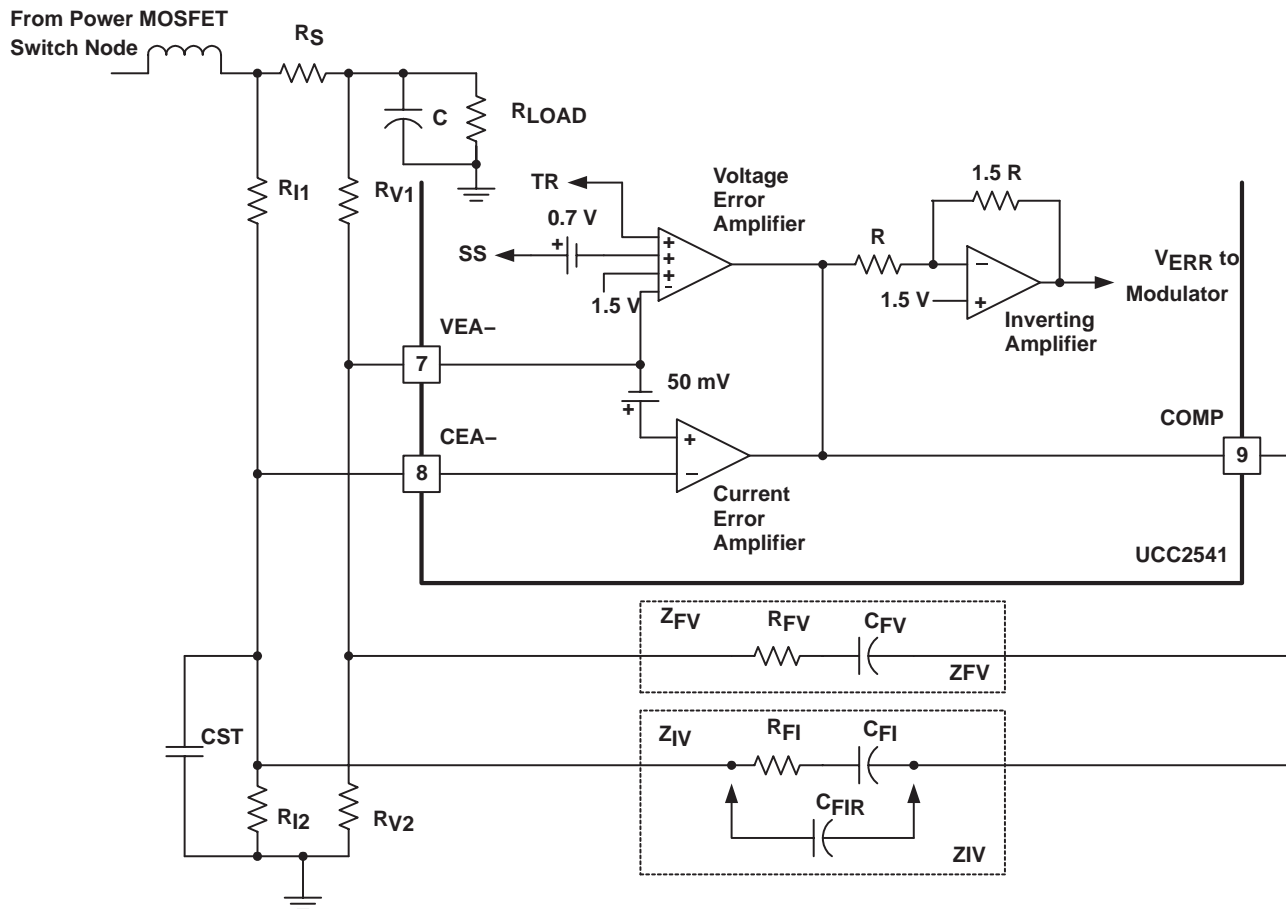

Figure 3. Error Amplifier Configuration
Current limiting begins to occur when the difference between CEA– and VEA– exceeds 50 mV. For currents that exceed this operating condition, the UCC2541 controls the converter to operate as a pure current source until the output voltage falls to half of its rated steady state level. Then the UCC2541 sets both G1 and G2 outputs to LOW and it latches a fault that discharges the soft-start voltage at 30% of its charging rate. The UCC2541 inhibits a retry until the soft-start voltage falls below 0.5 V. A functional diagram of the voltage and current error amplifiers is shown in Figure 3.
**Voltage vs. Current Programming (refer to Figure 3):**
From no-load to full rated load operating conditions, the UCC2541 operates as a voltage mode controller. Above the programmed rated current, there are two levels of over current protection; constant current limit and overcurrent reset/retry. This section gives suggestions on how to design the voltage controller and current controller so that they interact with one another in a stable fashion. Refer to the functional diagram of the voltage and current error amplifiers in Figure 3. The voltage error amplifier in the figure shows three non-inverting inputs. The lowest of the three non-inverting inputs (1.5 V, SS and TR) is summed with the inverting input to achieve the voltage error signal. The lowest of the two outputs drives the inverting stage which in turn, drives the modulator.
During steady state voltage control operation, the feedback elements in the current loop have no effect on the loop stability. When current limit occurs, the voltage error amplifier effectively shuts OFF and the current error amplifier takes control. During steady state current limit operation, the negative feedback elements in the voltage error amplifier loop become positive feedback elements in the current error amplifier loop. In order for the current error amplifier to be stable, the impedances in the feedback path of the current error amplifier must be lower than the impedances in the feedback path of the voltage error amplifier. This means that resistors in the current error amplifier negative feedback path must be less than the resistors in the voltage error amplifier negative feedback path. Also capacitors in the current error amplifier negative feedback path must be larger than capacitors in the negative feedback path of the voltage error amplifier negative feedback path. (Capacitance is really an admittance value rather than an impedance value). This concept is illustrated in Figure 3.
In order for the current loop to be stable in Figure 3,  $||Z_{IV}||$  must be less than  $||Z_{FV}||$  over all frequencies. This can be achieved if  $R_{FI} < R_{FV}$  and  $C_{FI} > C_{FV}$ .
Another issue that can occur during current limit operation is modulator stability. In order for the modulator to be stable, the rising slope of the current ripple measured at the COMP pin must be smaller than the rising slope that is measured at the RAMP pin. This can be met either in the selection of the ratio of  $||Z_{IV}||$  to  $||Z_{FV}||$ , or by the addition of a capacitor in parallel to  $R_{FI}$  and  $C_{FI}$ , such as  $C_{FIR}$ , in Figure 3.
In some applications, this current and voltage error amplifier configuration may lead to difficulties with startup at turn on and with restarting after current limit hiccup operation. A small capacitor from CEA– to ground can filter this node to alleviate this issue. This capacitor is shown as  $C_{ST}$  in Figure 3.
### Stable Dynamic Current Loop Design (refer to Figure 3):